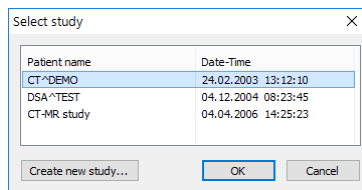

Figure 438 – Select study dialog
1. Select the existing study for the insertion of the new series from the studies list in the **Select study** dialog (see Figure 438).